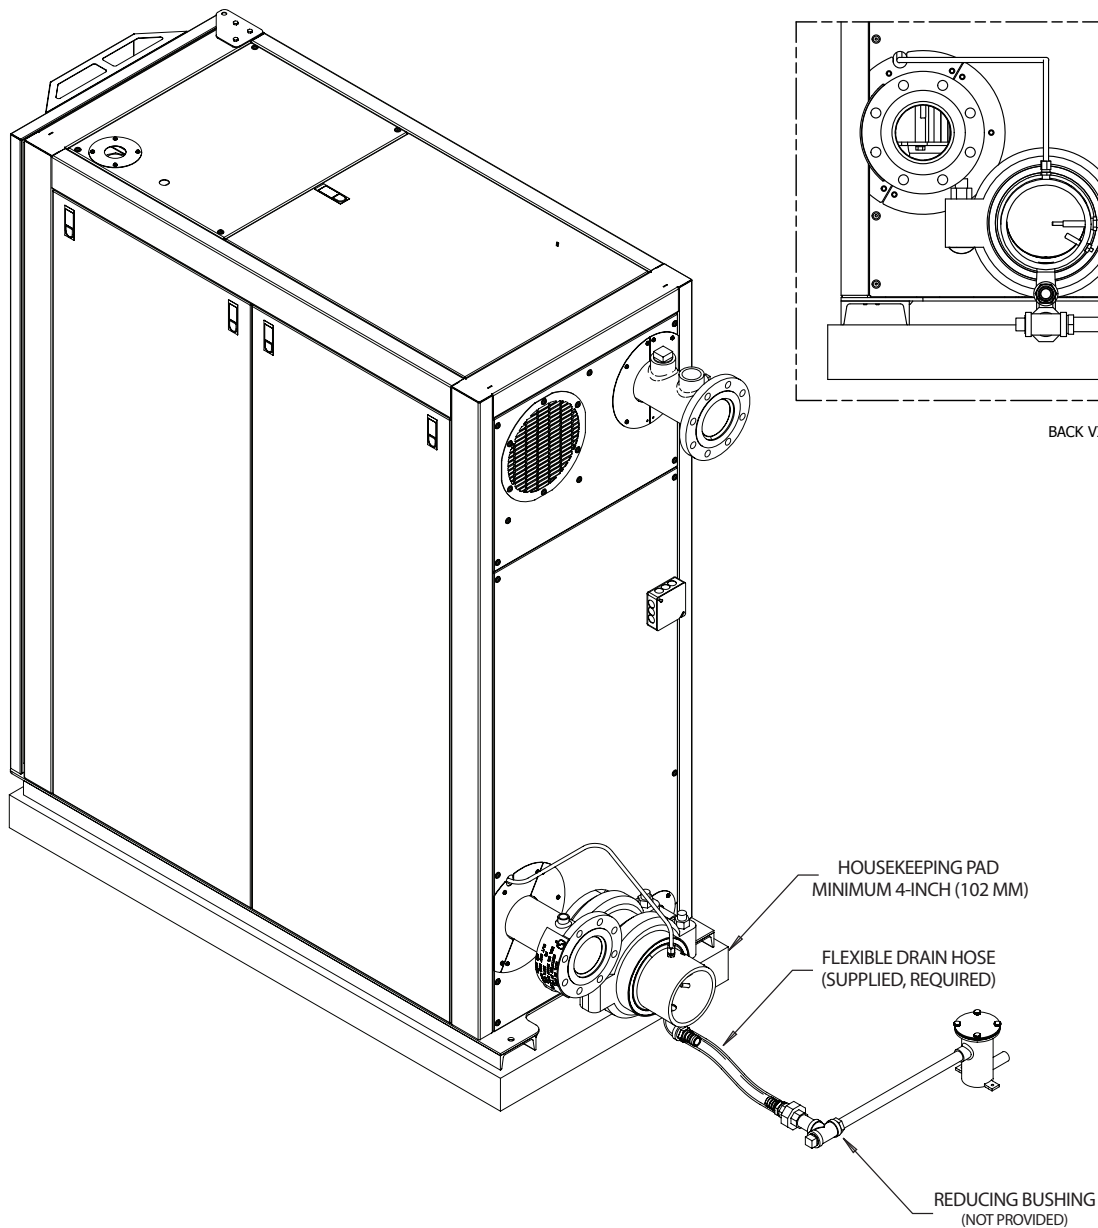

FIGURE 11 - CONDENSATE DRAIN PIPING FOR INDIVIDUAL ENDURA+ BOILER
The single boiler condensate drain trap is Fulton Part Number 4-57-005500. The drain trap must be configured one per boiler, with a maximum of 4.0 MMBH total. (See Figures 11 and 13).
4. All piping (Figure 11) must be CPVC, high temperature silicone tubing, galvanized, or stainless steel, and be free of leaks. Copper, carbon steel/iron pipe, or PVC are not acceptable.